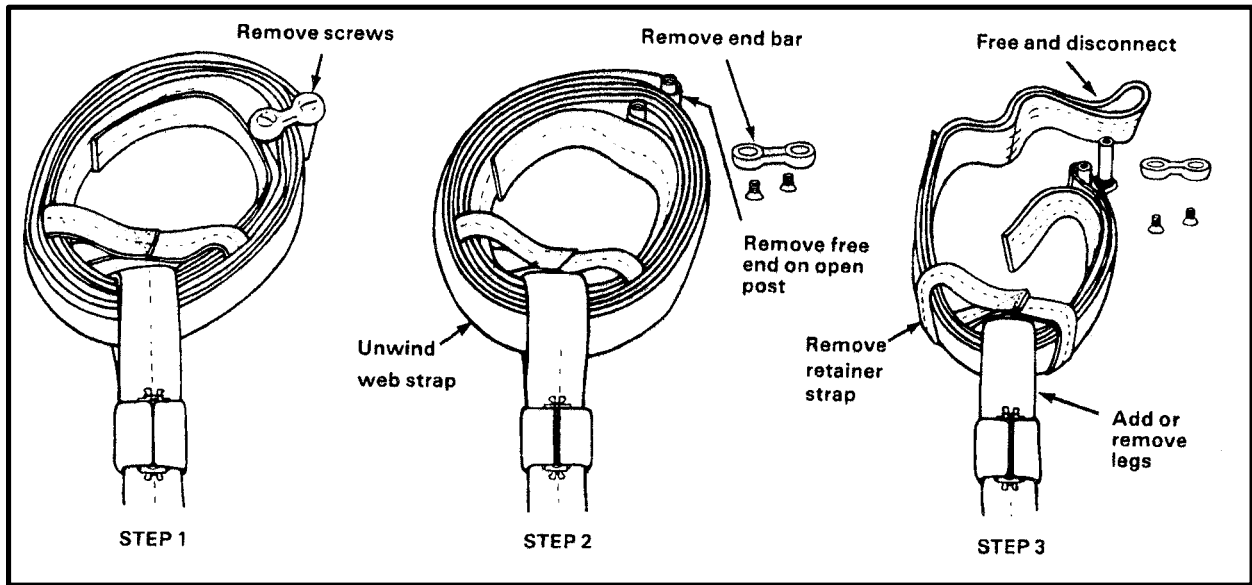
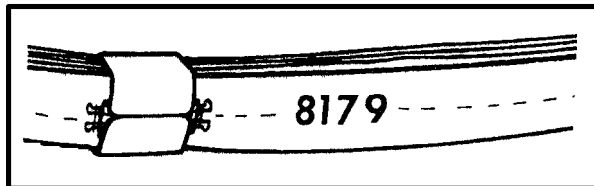
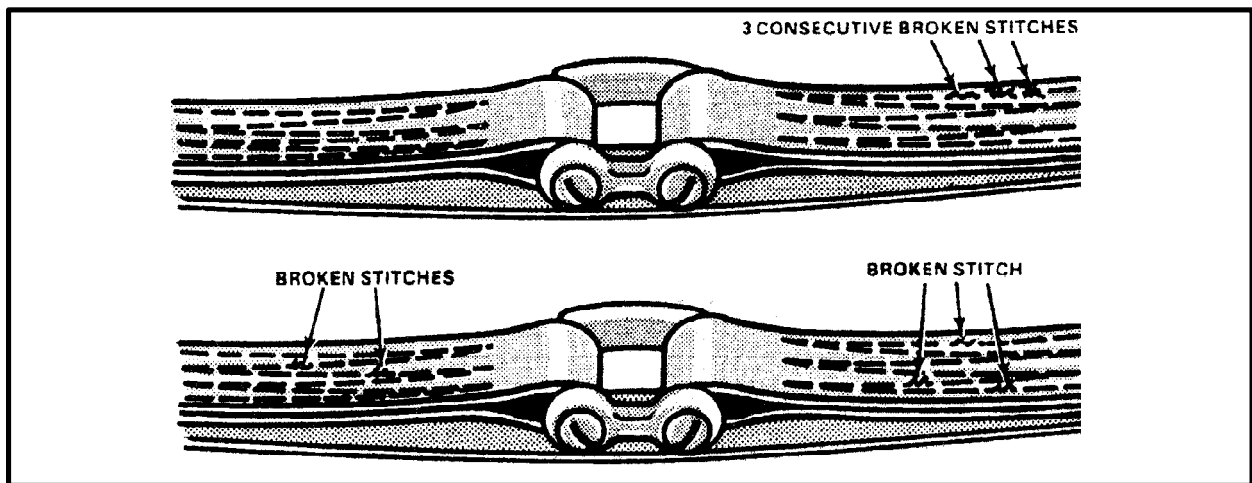

Figure 6-22. Taking Apart the Ring
Figure 6-23. Sample Inspection Date Marking
Figure 6-24. Sling with Broken and Loose Stitches
- (1) Remove the two screws and end bar from the web ring connector bar (Figure 6-22).
- (2) Remove the two free ends of the web ring strap and unwind the web strap.
- (3) Remove the retainer strap and add or remove sling legs as required.
- (4) Install the retainer strap over the web strap.
- (5) Place the free ends of the web strap over the open posts of the connector link.
- (6) Install the end bars and tighten the two screws.
**f. Inspection.** The unit can conduct its own inspection. Each nylon and chain multileg sling must be marked with 1-inch letters showing the date that the set was first placed in use (Figure 6-23). This means the first day the sling is used, not the day of issue. The marked date is used in determining when the next required inspection is due. Although the slings are routinely inspected before and after each use, they must be thoroughly inspected every 6 months.
(1) If the sling is found satisfactory for further use, the old date is marked over and the new date applied. The date can be the calendar date or Julian date as shown in Figure 6-23. The dates will be applied using either orange-yellow parachute marking ink, orange tube-type marker, strata blue parachute marking ink, or strata blue tube-type marker. If the old date was marked with strata blue, mark over the area with strata blue ink and apply the new date using orange-yellow ink. Do just the opposite if the old date was marked with orange-yellow ink. Only one date should appear on the sling. An alternate method for recording the inspection date is to attach a metal tag to the sling set to identify the last inspection date.
(2) If the sling is unserviceable, stencil "unserviceable" on it and dispose of it through supply channels. The sling set is unserviceable if one of the following defects is found:
- (a) Three or more consecutive broken and/or loose stitches (Figure 6-24).